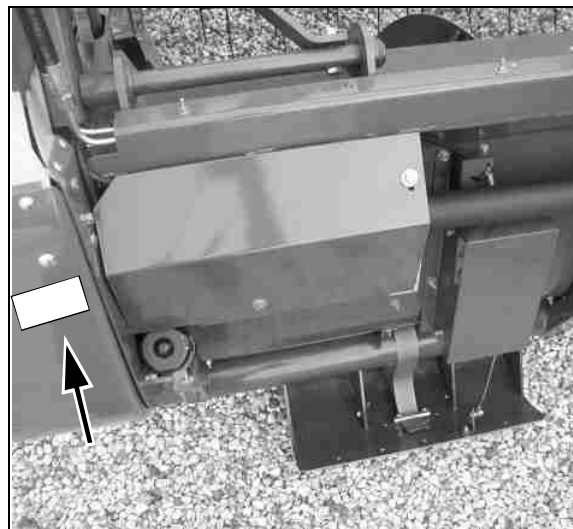

Fig. 6
**Cutting table identification details - Fig. 6**